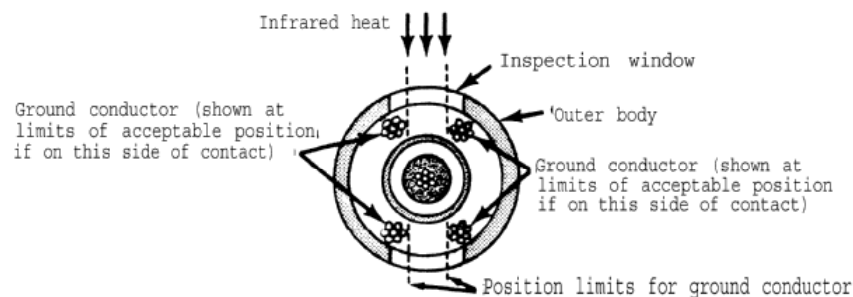

Figure 12A. Positioning of Ground Conductor During Infrared Heating
- The ground conductor may be positioned to either side of the inspection windows, but should not be positioned directly in either one of the inspection windows (Figure 12A).